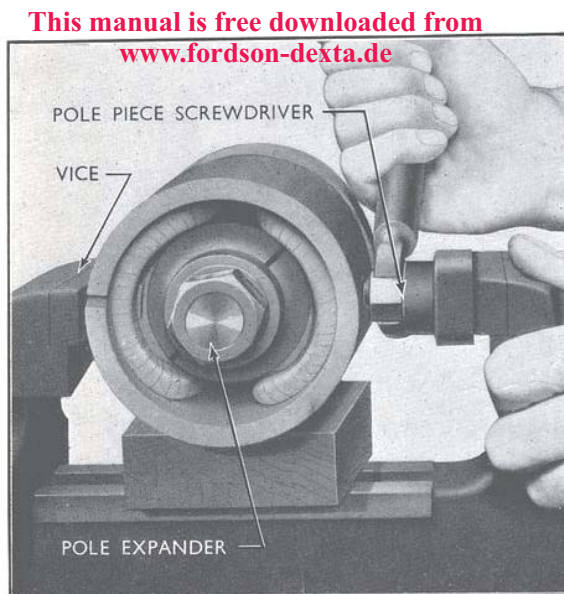

Fig. 7
6. Mount the yoke and pole piece screwdriver CPT.9504 in a vice, as shown in Fig. 7, when the pole piece screws can be slackened off and finally removed.